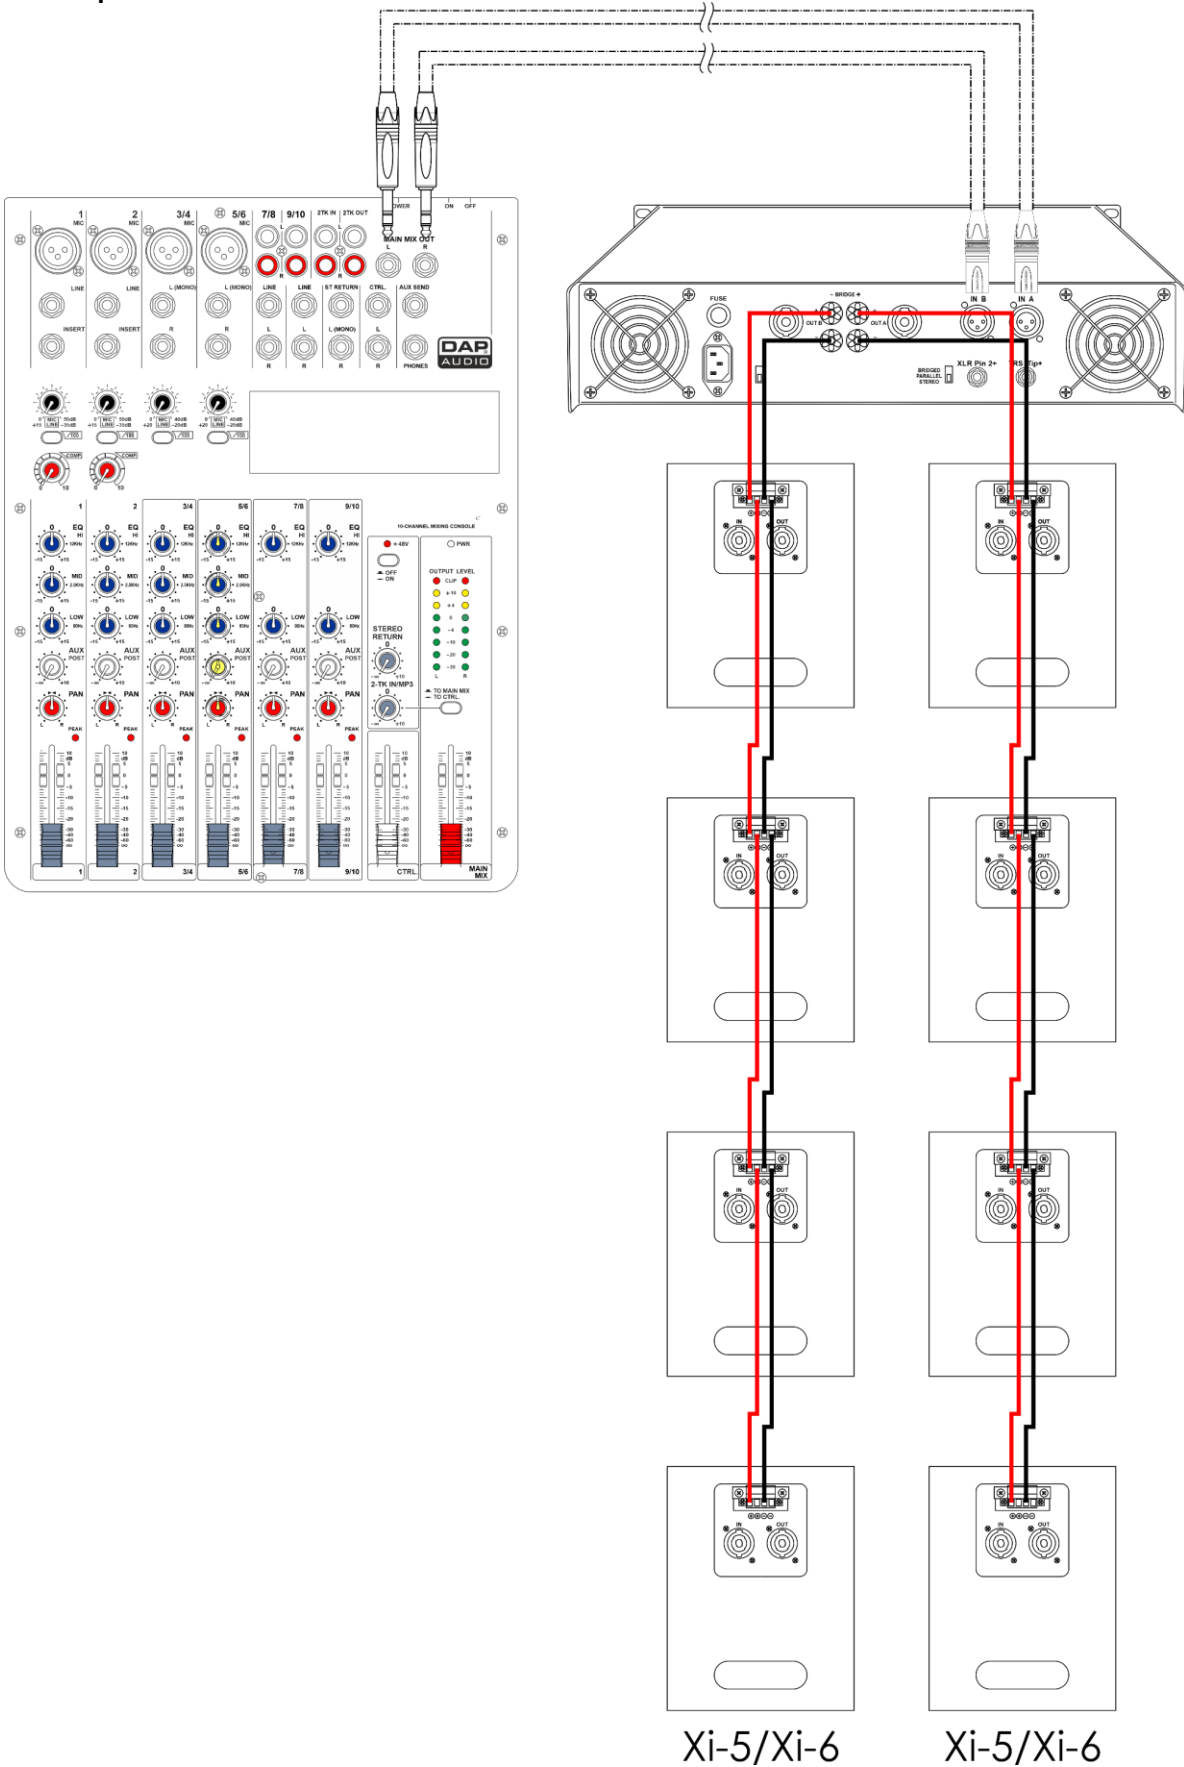
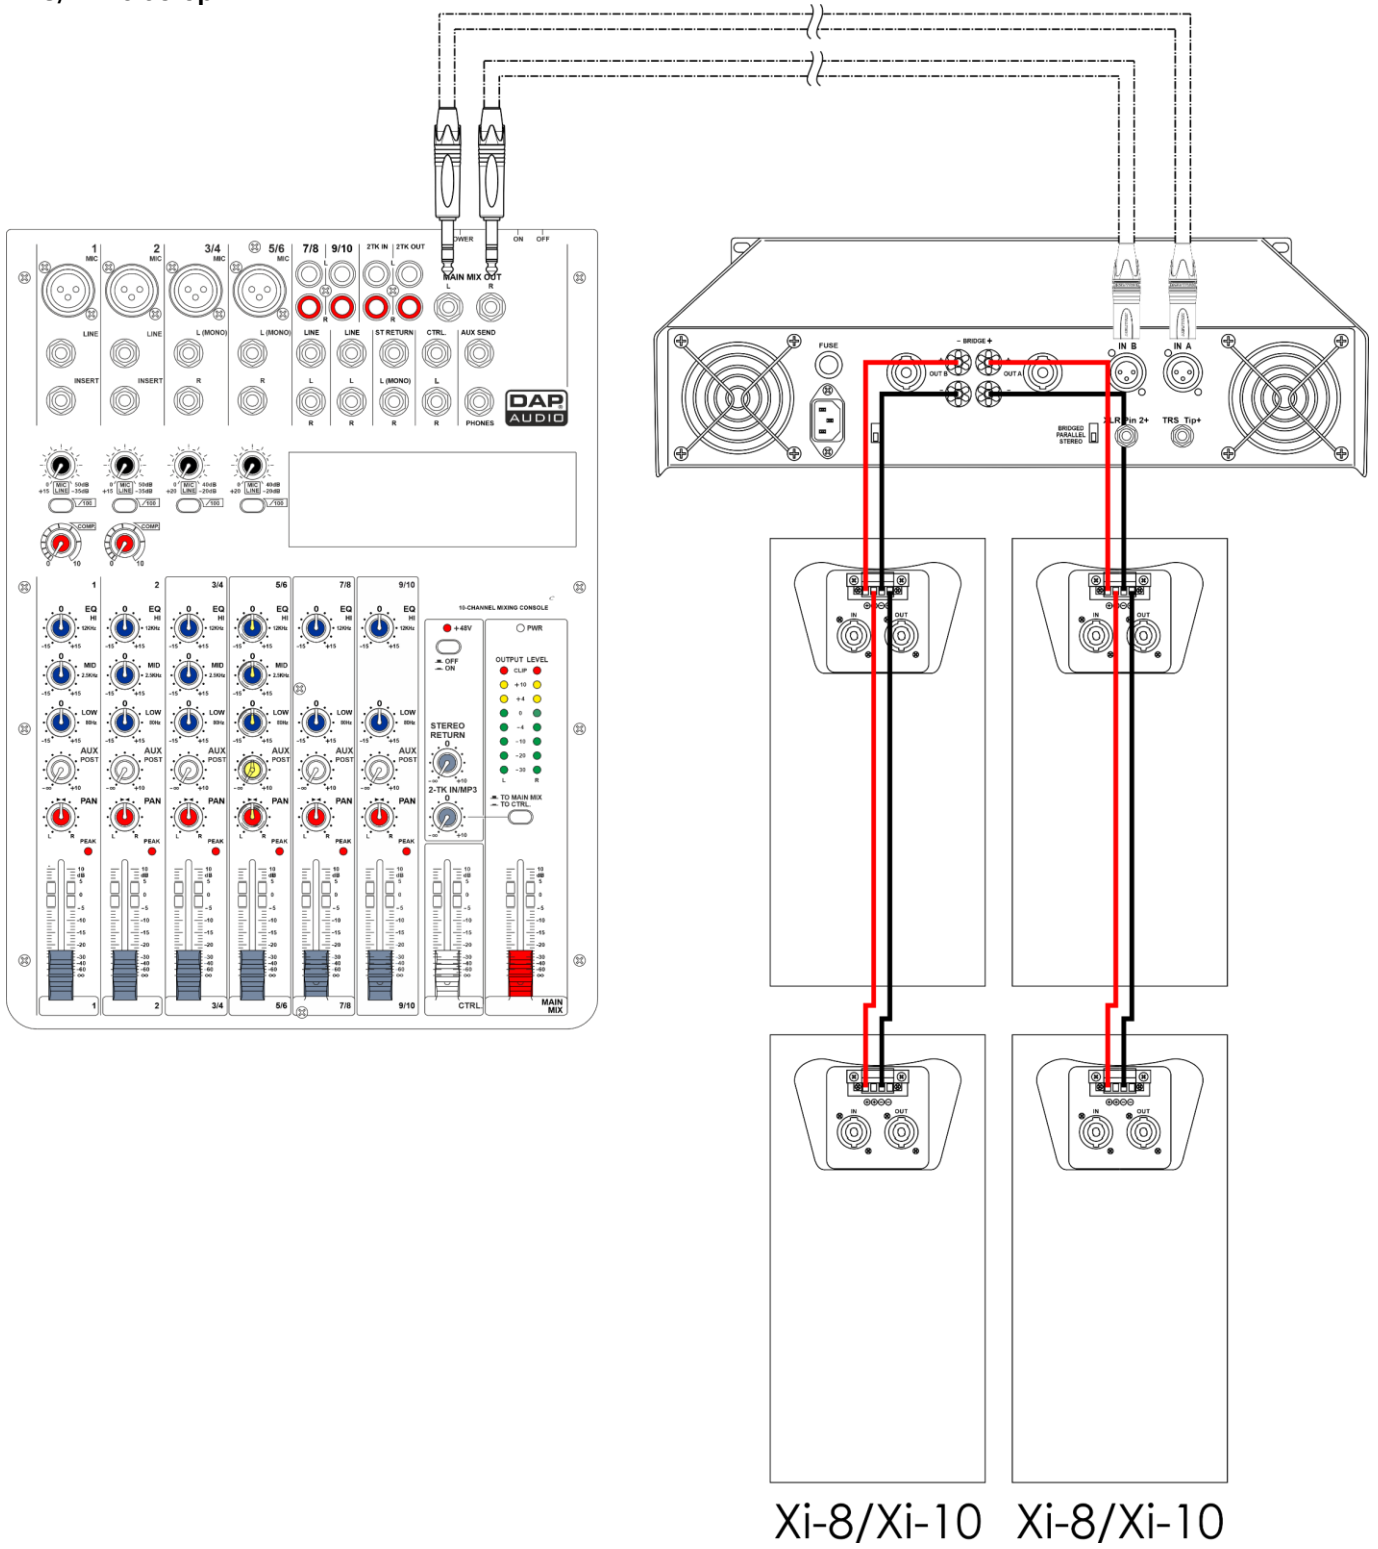

Fig. 06
Fig. 07
- With Phoenix terminal connectors. See Fig. 06 and Fig. 07 on pages 11–12 for more information.